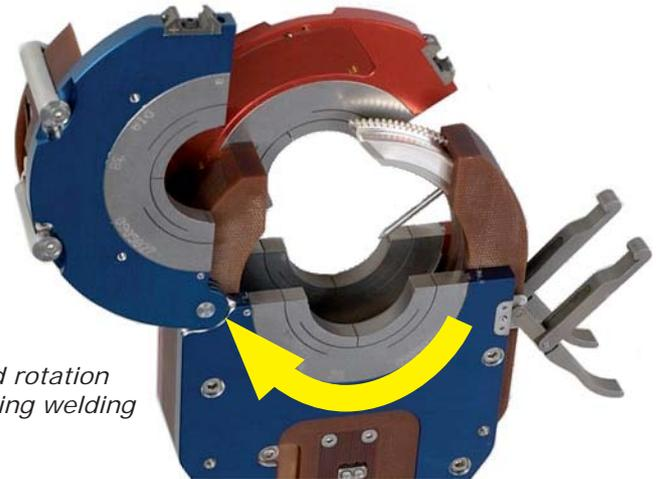

Fig.5.2 - Recommended rotation direction during welding
**Note:** for an open head start position, the recommended direction of rotation during the welding cycle is the one by which the electrode goes towards the handle of the MW head (Fig.5.2).